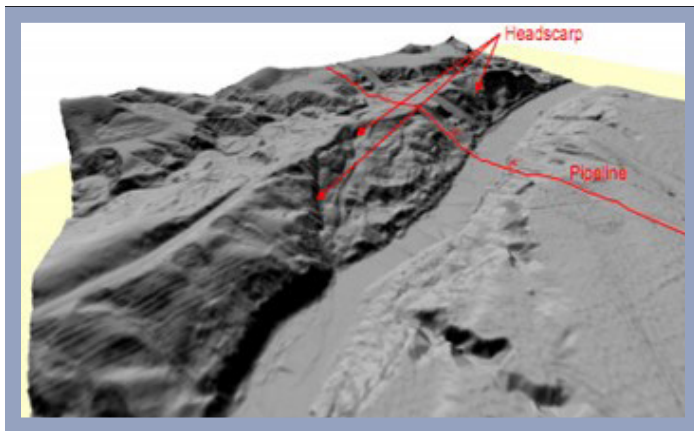

Figure 3. LiDAR imagery showing pipeline right-of-way traversing an active landslide
- Ground truthing of the terrain mapping. This includes identification of landslide features such as pre-shear soil masses (see Figure 3).